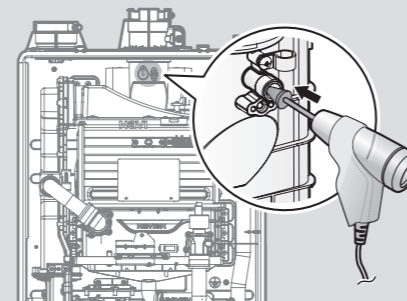

Figure 7. Insert the Analyzer
- a. Loosen the screw, rotate the plate and remove the gasket to access the emissions monitoring port as shown in Figure 7.
b. Insert the analyzer into the port (Figure 7).